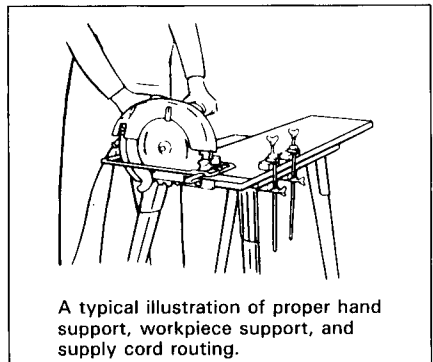

Fig. 4
**It is important to support the workpiece properly and to hold the saw firmly to prevent loss of control which could cause personal injury. Fig. 4 illustrates typical hand support of the saw.**